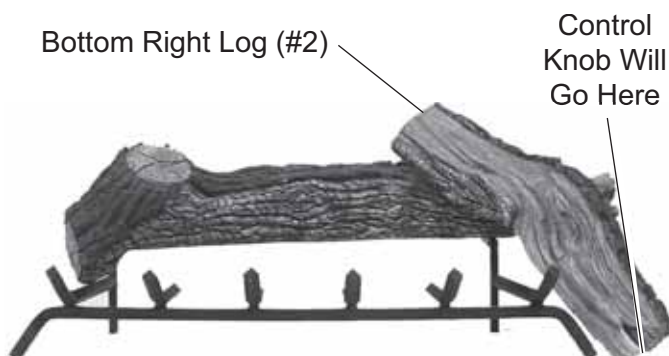

Figure 140 - Placing Bottom Right Log (#2)
3. Place Bottom Right Log #2 along outside of grate. Rest end on Rear Log #1. Control knob will stick through bottom notch of log. *See Figure 140.*